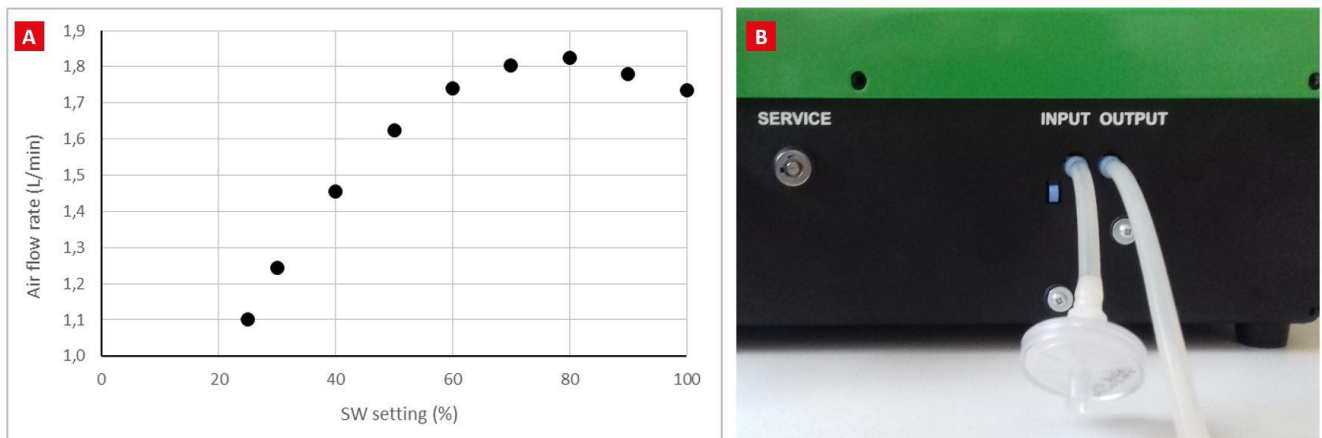

Fig. 5 TS Air pump.
The new Turbidostat module 1100 accommodates its own turbidostatic Air pump (TS Air pump) to guarantee a continuous air supply and mixing of the biomass in all testing vessels. The TS Air pump has higher power compared to the standard Multi-Cultivator's Air pump. Typically, the range of TS Air pump runs between 1.1 – 1.8 l/ml under recommended connection with an air filter connected to the input tubing. This range corresponds to an intensity of approximately 25 – 70 % that can be adjusted by the Bioreactor control software (see Fig. 5-A). The input and output of the TS Air pump is located on the rear side of the Turbidostat module (Fig. 5-B).
- Connect a short piece of silicon tubing (\varnothing 3/6 mm) to the TS Air pump input. Connect the Minisart filter through a Female Luer Thread to the end of the silicon tubing (Fig. 5).
- Connect the TS Air pump output (Fig. 5) through the silicon tubing (\varnothing 3/6 mm) with the Teflon runner of the Multi-Cultivator MC 1000.
The use of the inbuilt TS Air pump is recommended for the biomass aeration. The Bioreactor control software allows to switch on and regulate the TS Air pump instead of the standard Air pump. The TS Air pump can be controlled in the range from 25 to 100 %. For the relation between intensity of TS Air pump (%) and its flow rate (l/min) see Fig. 5.